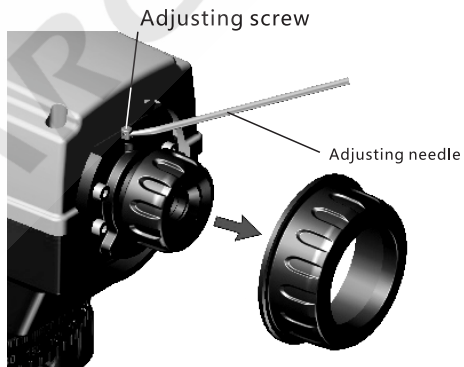

Fig. 14
- Read off Hz-angle from Horizontal Graduation Circle (fig.14): $H_z = 54^\circ$